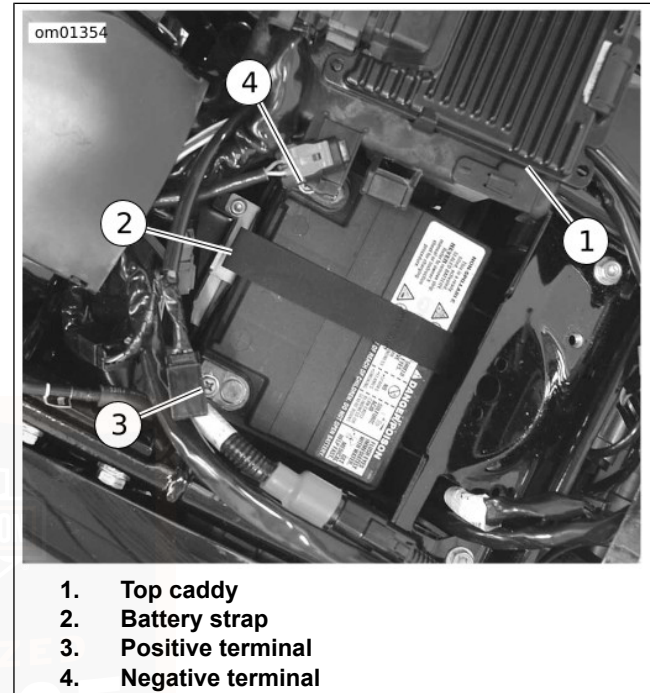

Figure 72. Battery Compartment
4. See Figure 72. Remove battery negative cable (black) from battery negative (-) terminal.
1. See Figure 72. Place the fully charged battery into the compartment with terminals toward the front of the vehicle. Lay strap handle over top of battery.